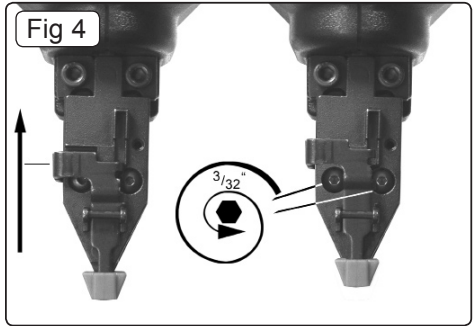

Fig 4
- 4.4 Proceed to lift safety latch, remove two more hex screws and pull away the metal guard (Fig 4) and free any obstructions.